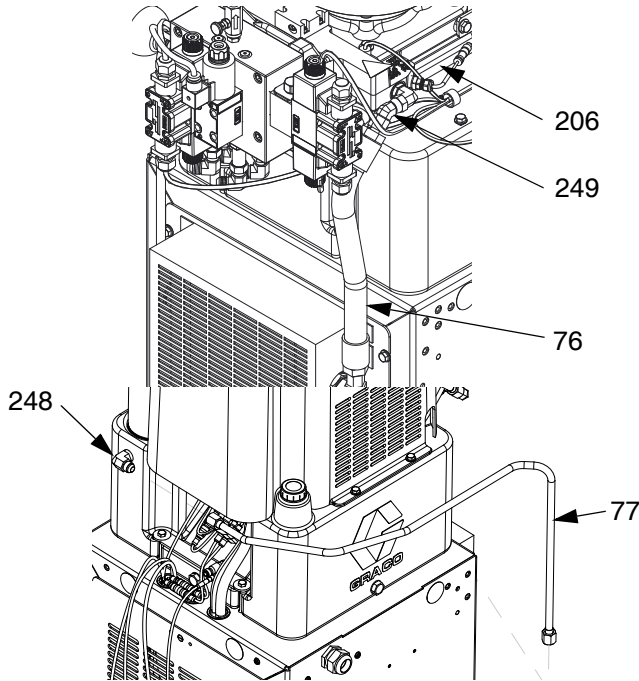

FIG. 28:Heat Exchanger Inlet and Outlet Hoses
8. Connect heat exchanger inlet hose (76) and fitting to elbow fitting (249) on hydraulic housing (206). Connect heat exchanger outlet hose (77) and fitting to elbow fitting (248). See FIG. 28 on page 30.